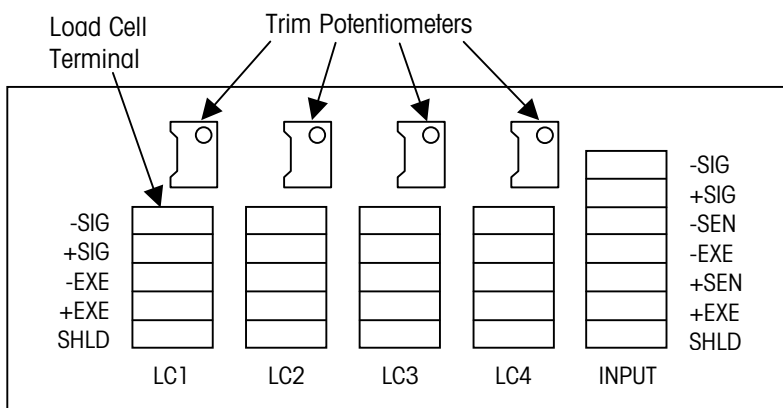

Figure 4-1: Junction Box PCB
1. Remove the access plate from the scale platform, and open the junction box. There are four trim potentiometers on the junction box PCB, one for each load cell (see Figure 4-1).